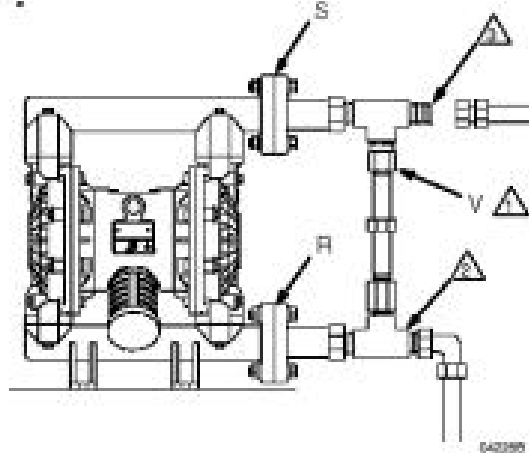

Fig 5
1. Remove the muffler (P) from the pump air exhaust port.
2. Install a grounded air exhaust hose (T) and connect the muffler (P) to the other side of the hose. The minimum size for the air exhaust hose is 3/4 in. (19 mm). If a hose longer than 15 in. (4.57 m) is required, use a larger diameter hose. Avoid sharp bends or kinks in the hose. See Fig5